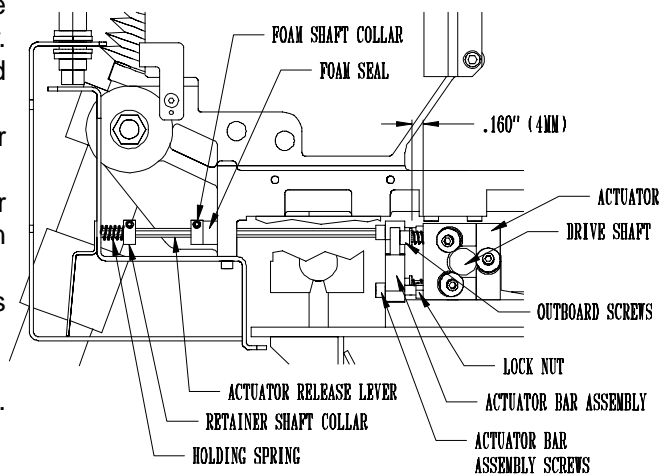
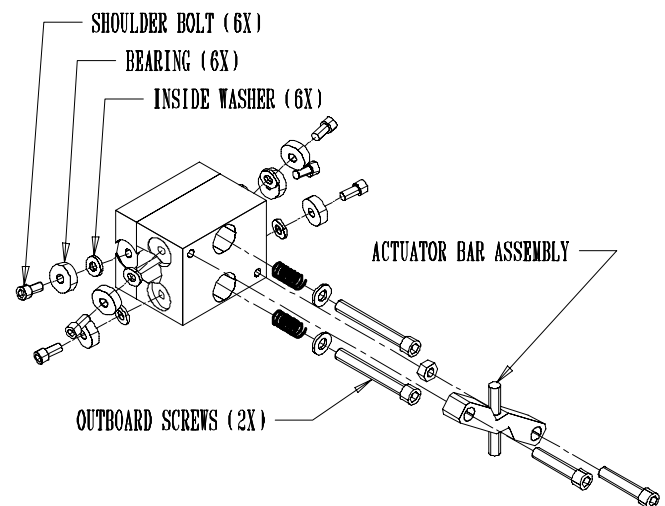

FIG. 12
FIG. 13
STEP 2—Turn the actuator release lever 1/2 turn clockwise to release the actuator from the drive shaft. Slide the actuator release lever out of actuator bar assembly by loosening the retainer shaft collar, which preloads the holding spring. See FIG. 12.
STEP 3—Move the grinding head carriage to the left side. Lift the bellows. Remove shoulder bolts fastening the six bearings to the actuator body. See FIG. 13. Remove the old bearings from the shoulder bolt, and discard, saving the inside washer. Insert the shoulder bolts through the new bearings and the saved inside washers. Then install these assemblies into the actuator body and tighten the shoulder bolts.
STEP 5—Slide actuator release lever with collar, spring washer and foam seal back into actuator bar assembly and lock in place with retainer shaft collar. See FIG.12. Turn actuator release lever 1/2 turn counterclockwise to engage bearings to drive shaft.
STEP 7—If readjustment is required to achieve pull force within specification, with actuator bearings engaged to drive shaft, readjust the two outboard screws with springs that hold the actuator together. See FIG. 13. To reach these screws, the actuator bar assembly must be removed. Turn each screw an equal amount when resetting for more or less tension, clockwise is more tension. Repeat Step 6 and verify pull force. Continue to adjust until within specification. The factory preadjusted spring tension is .160 or 5/32" (4 mm) from under the washer holding the spring to the actuator block. See FIG. 12. This should give the 60 lbs. carriage pull force specified.
When adjustment is correct reinstall the actuator bar assembly. The bar assembly must be adjusted parallel to the actuator aluminum body and so it is just touching the outboard screw heads. Then tighten the lock nut on the lower actuator bar assembly mounting screw. See FIG. 12. Then reinstall the release lever package as above.